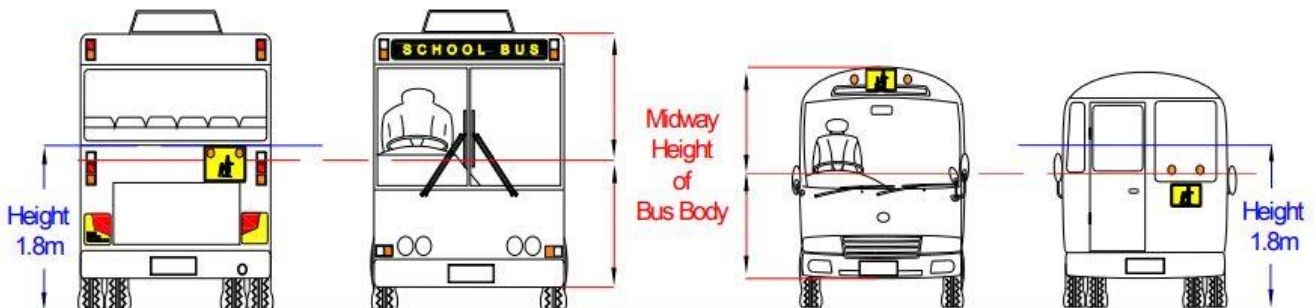

Figure 10 - When the midway height is under 1.8m
- If the centres of the warning lights are less than 1.8m above ground level, no part of the warning lights or warning signs must be on the left side of the bus (*Figure 10*).